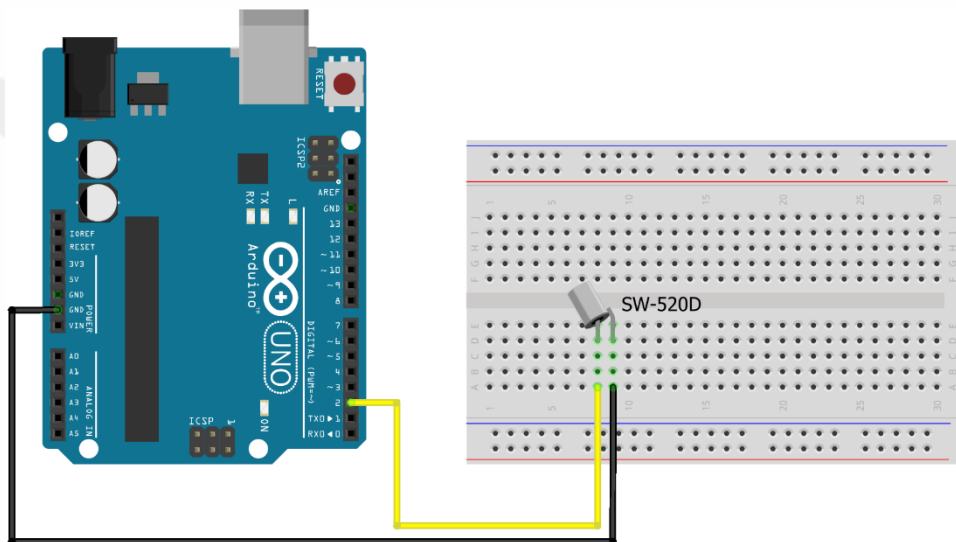

Figure 4.1 – Wiring diagram for SW-520D tilt switch with Arduino UNO R4 Minima
- a. Connect the SW-520D tilt switch as shown in the **Wiring Diagram (Figure 4.1)**.